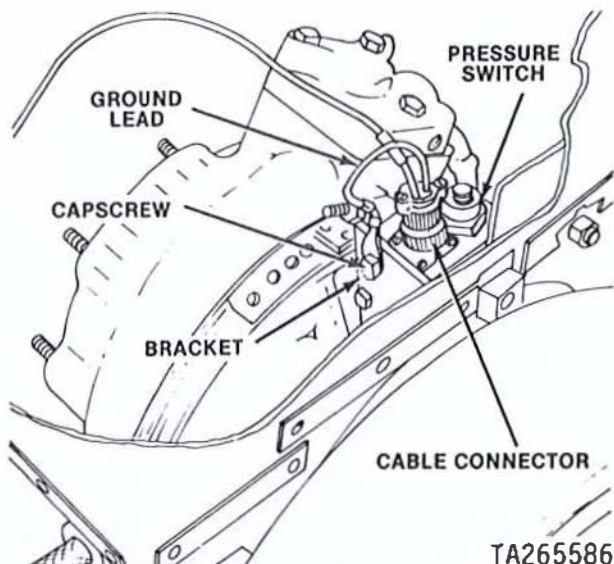

Figure 4-6. Removing or Installing Starter and Dust Detector Electrical Cable
(2) Remove capscrew (fig. 4-6). Disconnect electrical cable connector from pressure switch.